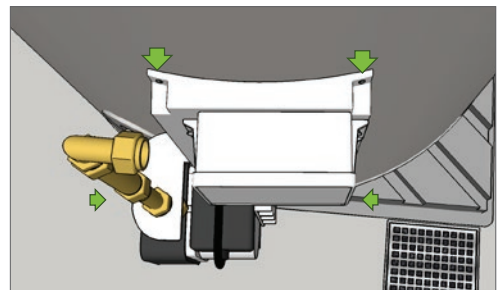

Fig 3
2. Ensuring the controller is located at the top and the base plate is plumb, fix the base plate to the tank using 4 x 20mm tek screws provided (Fig 3)